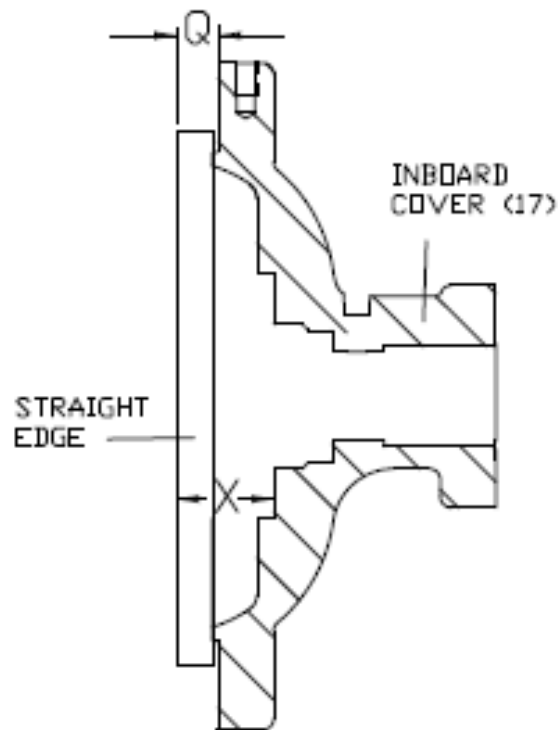

Figure 2 - Set Adjustment Screws, Inboard End
Step 1. Install jam nuts (25) and adjusting screws (19) to rotor housings (8 & 10). Install nuts and screws loosely, do not tighten at this time.
Step 2. Install spacer (12) to pump case (1) bore, align opening in spacer with discharge port opening. Align anti-rotation pin slot in housing to pin hole on side of case flange. Slide drive end rotor housing (8) into pump case (1) inboard end. Repeat for non drive end rotor housing (10) assuring that rotor housing end faces are fully seated against spacer (12) faces. To assist in aligning housing bores, install idler rotors (14) into idler bores. Rotate rotor housings until idlers slide back and forth freely without binding. When rotor housing bores are aligned, install anti-rotation pins (11) per above note. Slide idler rotors back and forth again ensure no binding exists. Install pipe plugs (7).
Step 3. Install shaft bushing (18) to inboard cover (17). Using anti-rotation stop pin (23) as a pilot hole, drill a 7/16 – inch hole through the bushing. Make sure the bushing flange remains seated against the inboard cover counter-bore when drilling. Remove the bushing from the inboard cover and de-burr the drilling. Install bushing insert (57) and install bushing (18) in inboard cover (17). Install stop pin (23) in inboard cover (17).
Step 4. Set the rotor housing adjusting screws by the following directions: Rotor housing adjusting screws (19) at inboard and outboard ends of the pump should be set following the directions outlined in Figures 2 and 3. To verify correct setting of adjusting screws (19), wipe bluing or place fuse wire on adjusting screw heads and install inboard end cover (17) with gasket (4) and bolts (2). Torque bolts to 50 ft-lbs. (67 Nm). Remove inboard end cover and verify adjusting screw contact with inboard end cover.